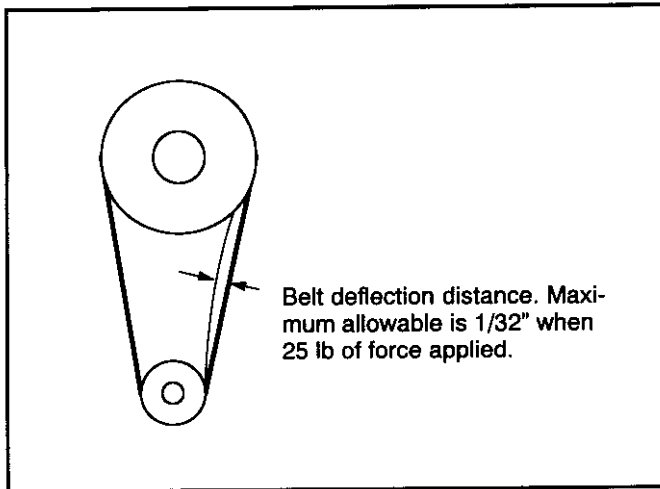

Figure 22. Elevation Drive Belt Deflection.
- b. Using the adjustment screw on the drive belt adjustment bracket, increase the belt tension to achieve a maximum deflection of 1/32 inch at 25 pounds of pressure, as shown in Figure 22.